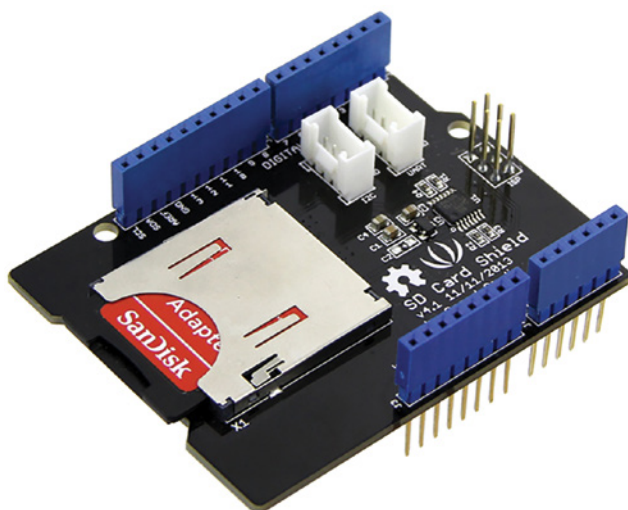

Figure 14-11: Seeed Studio SD card shield V4
- **Seeed Studio SD Card Shield V4** (exploringarduino.com/parts/seeed-sd-card-shield): The Seeed Studio shield is another minimalist shield that supports a full-sized SD card. It also sports I²C breakout connectors and UART connectors that can be used for interfacing to Seeed's “Grove” line of Arduino peripherals. It connects the CS line to digital pin 4 of the Uno. Figure 14-11 shows this shield.